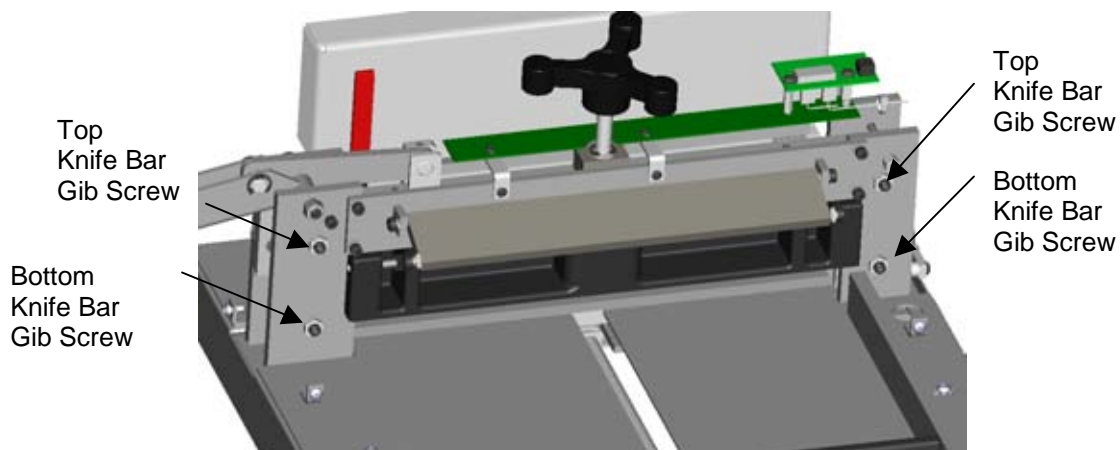

**Figure 9**
4. The backgauge accuracy can be corrected by adjusting the preset screw attached to the bottom of the backgauge nut assembly (Figure 9). Disconnect the power cord. With the top cover ON, place the machine on a flat level surface on it's left side. Place a 5/16" wrench in the preset screw and hold in position while loosening the jam nut. Adjust the screw as follows: